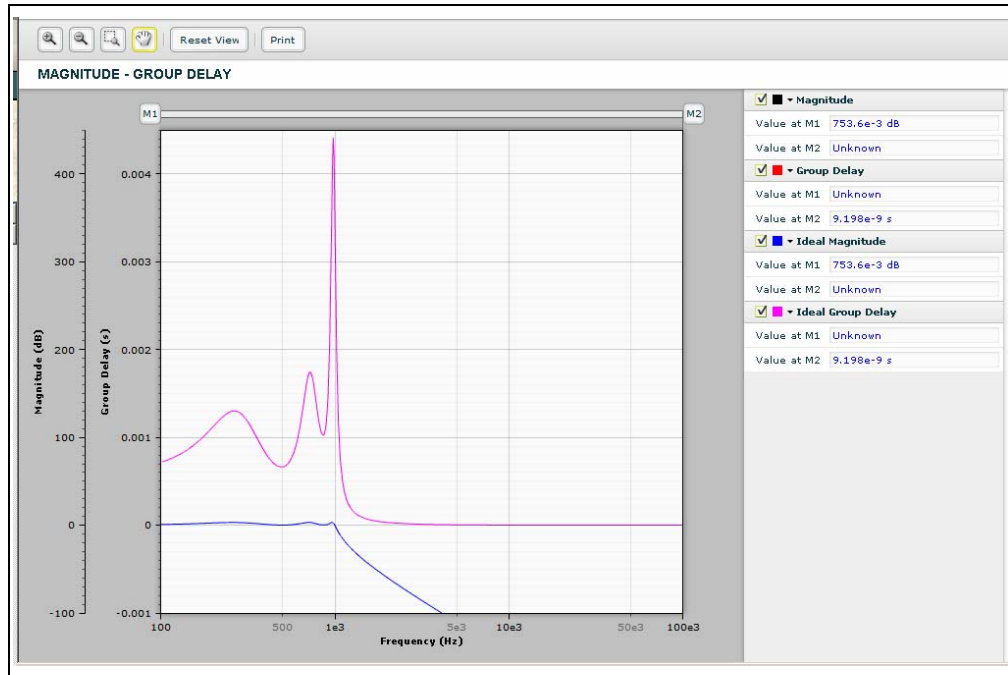

FIGURE B-8: Magnitude - Group Delay Response with Chebyshev Approximation.
- Poor group delay or phase response (Figure B-8)
The magnitude - group response of the 6th order Low-pass filters with Chebyshev approximation is shown in Figure B-8.